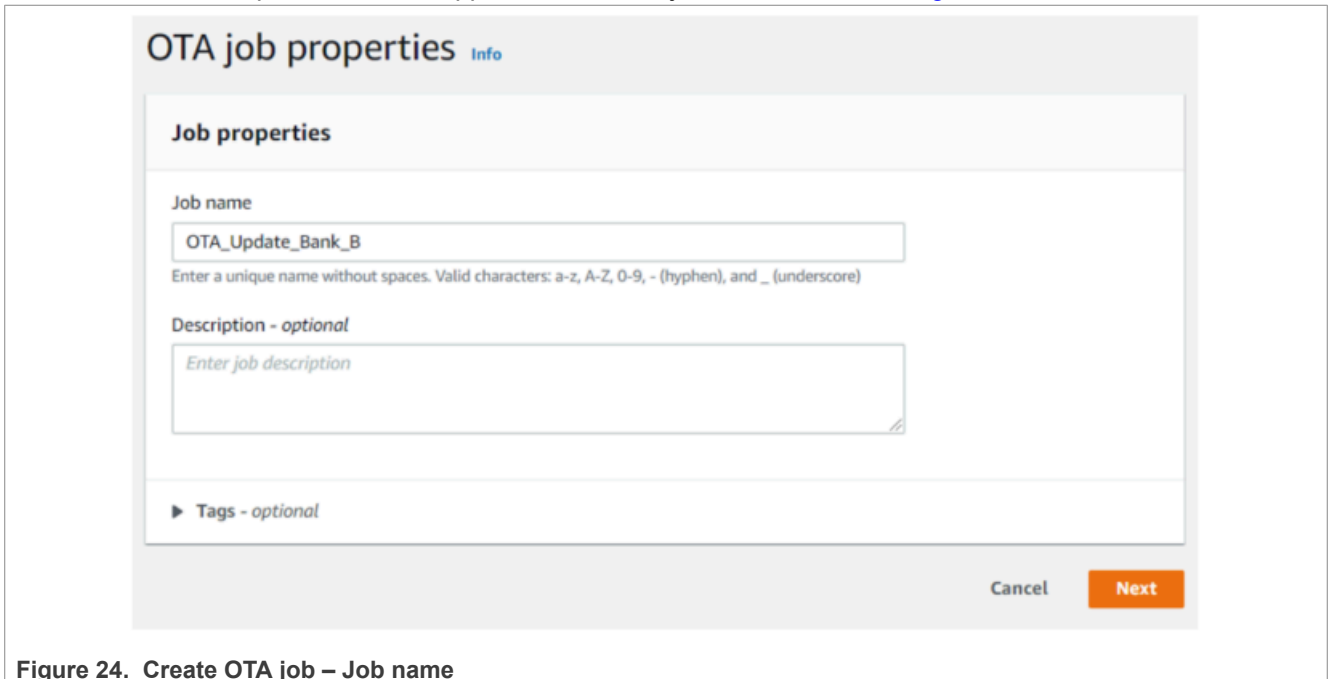

Figure 24. Create OTA job – Job name
3. The OTA Job Properties window appears. Provide a job name as shown Figure 24: